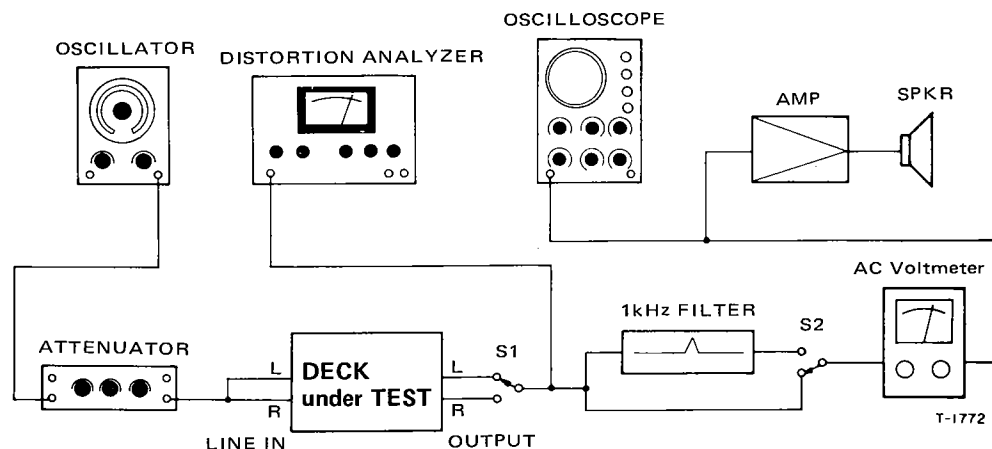

Fig. 5-1 Basic test setup
18. Erase efficiency	• Connection is same as in Fig. 5-1, but engage 1-kHz filter. • Record a 1-kHz signal. Rewind tape to midpoint of recorded portion. Record a "no signal" portion. Find the difference between the 1-kHz portion and the "no-signal" portion.
19. REC MUTE function	• Connection: Fig. 5-1, but engage 1-kHz filter. • Record a 1-kHz signal. Push REC MUTE button for several seconds. Rewind and play the tape. Find the difference between the 1-kHz portion and the "no-signal" portion.
20. Channel separation	• Connection: Fig. 5-1, but do not connect LINE IN (R), and engage 1-kHz filter. • Set the deck to record mode. Find the difference between the 1-kHz recorded portion (L-ch) and the "no signal" portion (R-ch).
21. Adjacent track crosstalk	● Connection: Fig. 5-1, but do not connect LINE IN (L) and OUTPUT (L). ● Record a 125-Hz signal on R-ch and note output level. Invert tape and play R-ch track. Check leakage level against the output reference of previously recorded portion.